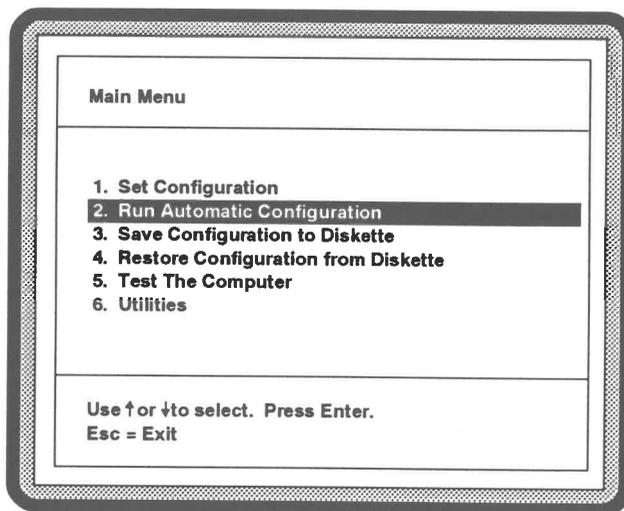

Figure 4-7 Selecting the Automatic Configuration Program
3. From the **Main Menu**, select the **Automatic Configuration** option and press Enter (see Figure 4-7).